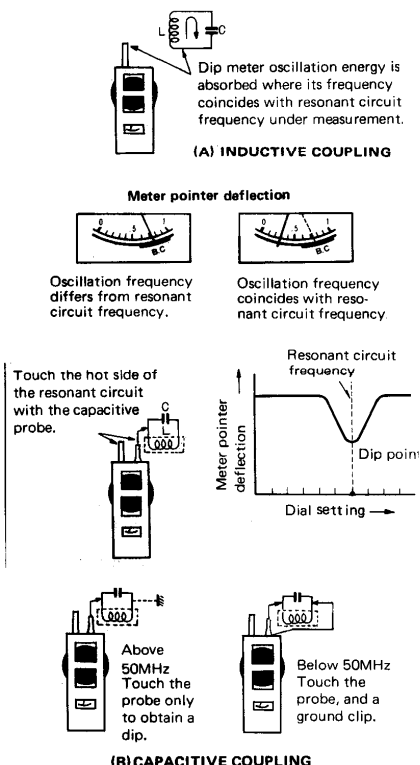

Figure 1. Dip Meter Operation
This is special feature of the **DM-801** which is not found in any other dip meter. Resonant frequency can be checked simply by touching the capacitance probe to hot side of the resonant circuit under test, instead of coupling the **DM-801**'s coil and measuring inductively. The frequency is read directly on the dial. See Fig. 1 (B).
A basic measurement with your DM-801 is a frequency check of resonant (tuned) circuits comprised of coils and capacitors. In practice, the dip meter is brought near the coil to be measured as shown in Figure 1(A). This illustrates a standard method of resonant frequency measurement.